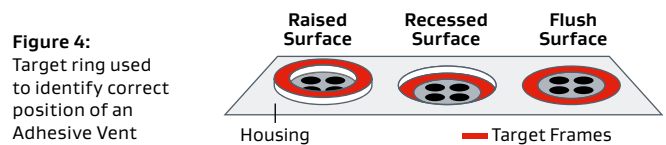

Figure 4: Target ring used to identify correct position of an Adhesive Vent
- The accuracy of the vent placement can be improved by making or establishing a "target area" on the vent housing (Figure 4)